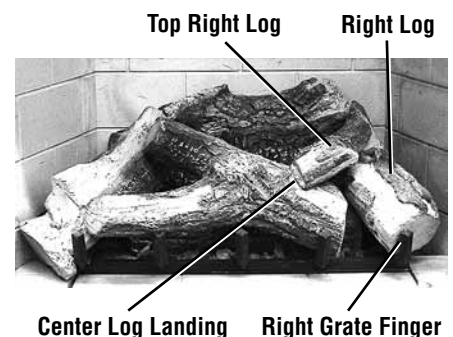

Figure 15
Step 5. Place the right log as shown in **Figure 15**, with the upper end sitting on the landing provided on the rear log. Another end of the right log should rest on the first right finger of the grate (see **Figure 15**). Position the top right log as shown, locating it on the landing of the center log.